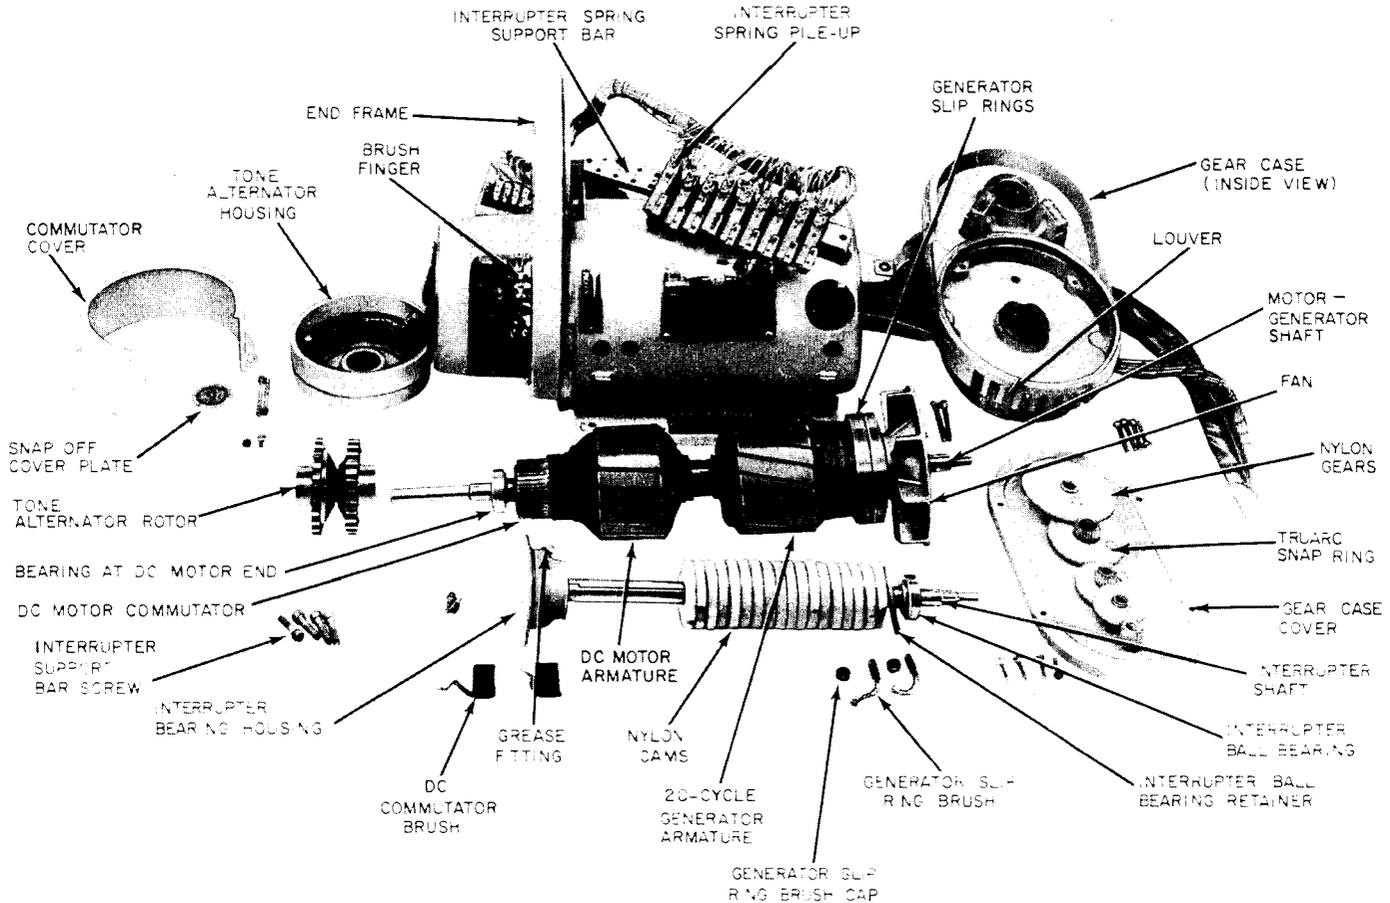

Fig. 7—DC Motor-Driven Ringing Machine—Detailed Disassembly—Tech Systems Company (formerly Electric Specialty Company)
3.01 Brushes (See Fig. 7 and 8)
(1) Remove the intermediate gears as described in 3.03(d). Using the Grip-O-Matic puller, remove the ball bearings from the gear shaft.
(2) Before installing a new bearing, clean the gear shaft and bearing housings using a clean cloth and petroleum spirits. Install the new ball bearing on each end of the gear shaft as described in 3.04(a)(5). Reassemble in reverse order of removal and check that the ball bearings rotate without binding.
3.06 Motor-Generator Shaft Ball Bearings (See Fig. 7 and 8):
3.07 Interrupter Cams (See Fig. 7 and 8)